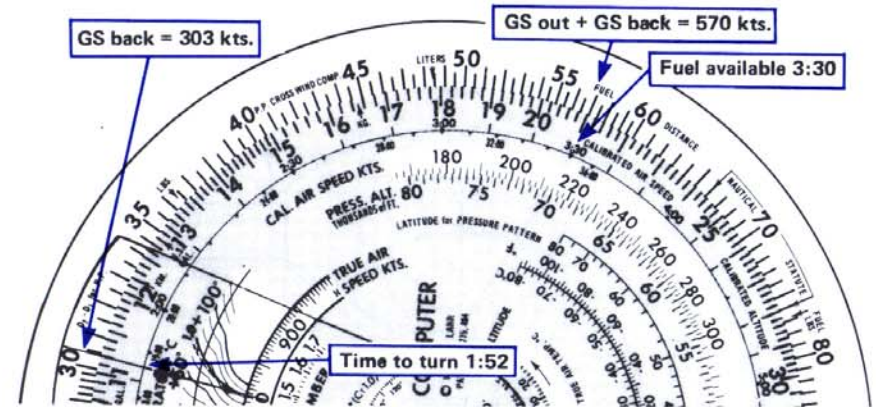

Fig. 36
4. Place 570 on the outside scale over 3:30 (fuel available) on the inside scale. (See Fig. 36.)